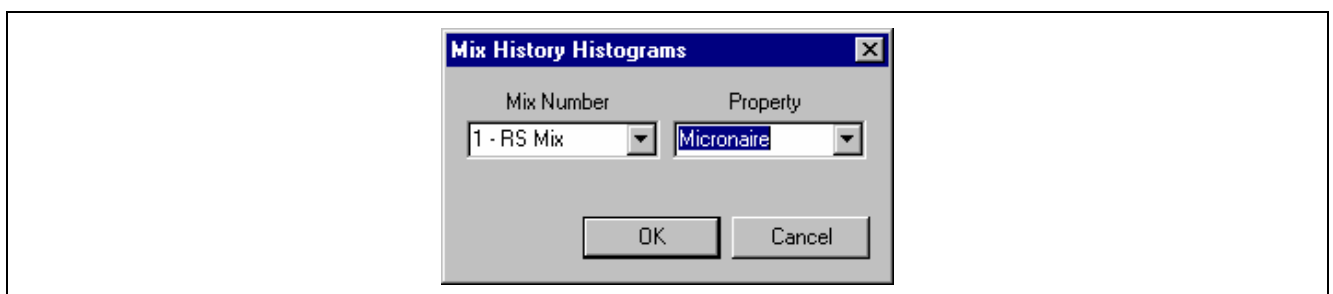

Fig. 6-54 Mix History Property Screen
14.2 From the window of Fig. 6-16, select View, then History, and then select Histograms to see the window Mix History Histograms. Under Mix Number use the down arrow to select 1-RSMIX and under Property use the down arrow to select a fiber property. Select Micronaire, for a change (Fig. 6-54).